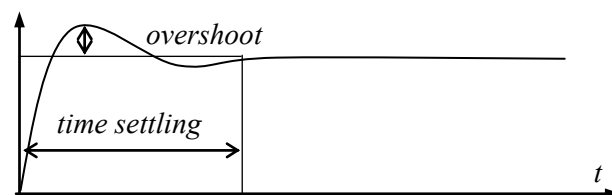

Fig. 2.7
- 100 kHz to 2 MHz – long (LF) and medium (AM-radio, MF) radio frequencies, often called a broadcast band,
- 2 to 30 MHz – short radio waves of high frequency (HF) and video band,
**Step response** Another typical characteristic of electronic circuit is a transient that is called a *step response*. An example given in Fig. 2.7 describes the system output when the step change in the input occurs. Ideally, when a device input changes, the output should change instantly. In practice, the output is likely to *overshoot*, *undershoot*, or both during the *settling time*. This uncontrolled movement of output during a transition is known as a *glitch*. The settling time of an electronic system is the time from a change of input to when the output comes within and remains within some error band. The shorter is the settling time and glitch the better is the system.